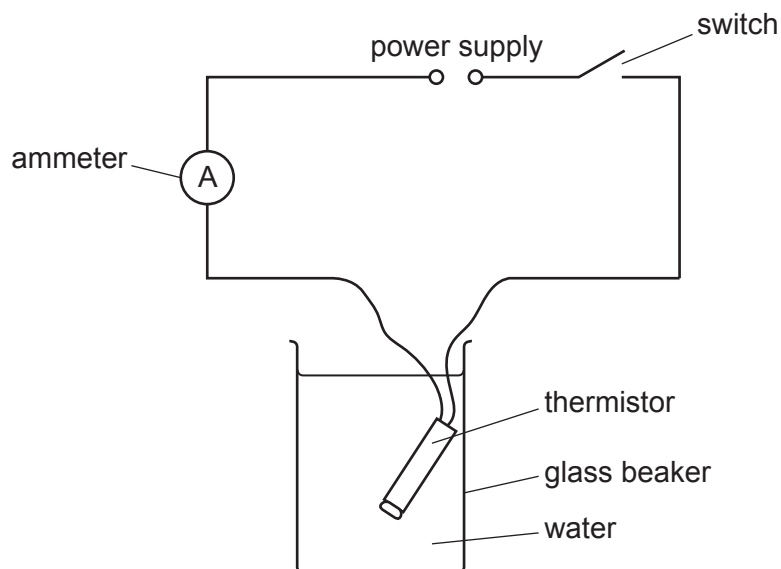

Fig. 4.1
- the assembled apparatus shown in Fig. 4.1.
- a brief description of how you will use the assembled apparatus shown in Fig. 4.1